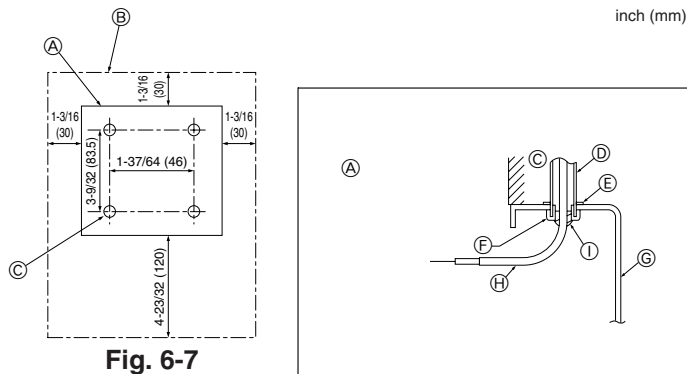

Fig. 6-7
(1) Select an installing position for the remote controller. (Fig. 6-7)